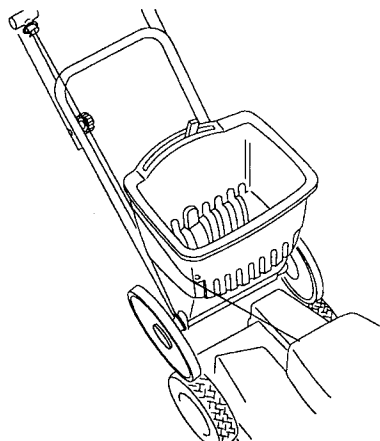

Figure 43
1. Place the spreader on your mower (Fig. 43). The wheels of the spreader must rest on the wheels of the mower.